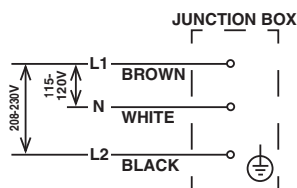

Fig. 7a
4. Electrical connection must be made in accordance with the instructions on the "WARNING" tag, provided with the pig tail leads in the junction box. See Fig. 7a and 7b.